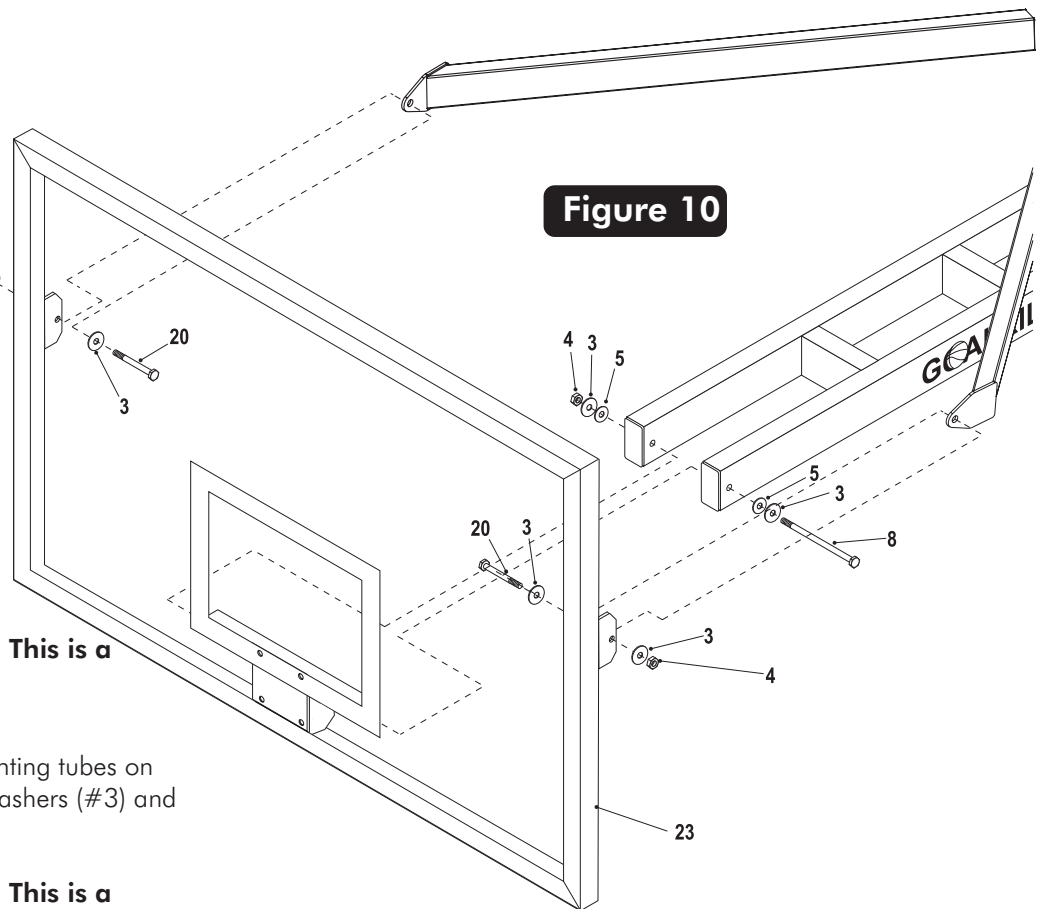

Figure 10
14. With at least four capable people, raise the backboard assembly up and have the fifth person attach Lower Board Arms to the Rim Support (# 21) on backboard using one bolt (#8), two washers (#3), two Plastic washers (#5) and two Locknuts (#4). See Figure 10.
15. Attach Upper Board Arms to upper mounting tubes on backboard using two bolts (#20), two washers (#3) and two Locknuts (#4). See Figure 10.